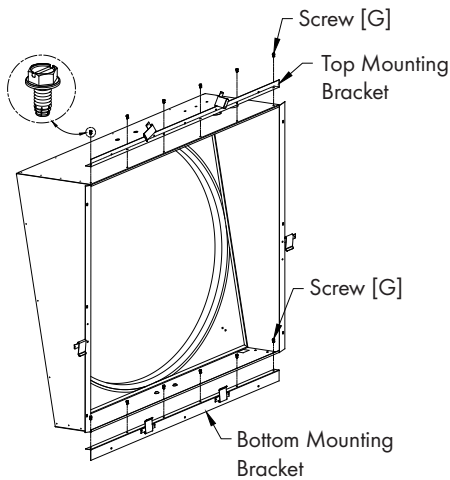

Figure 1
Attach Top and Bottom Mounting Brackets to Fan Housing using (12) Screws [G]. Install Screws in direction shown. *See Figure 1.*